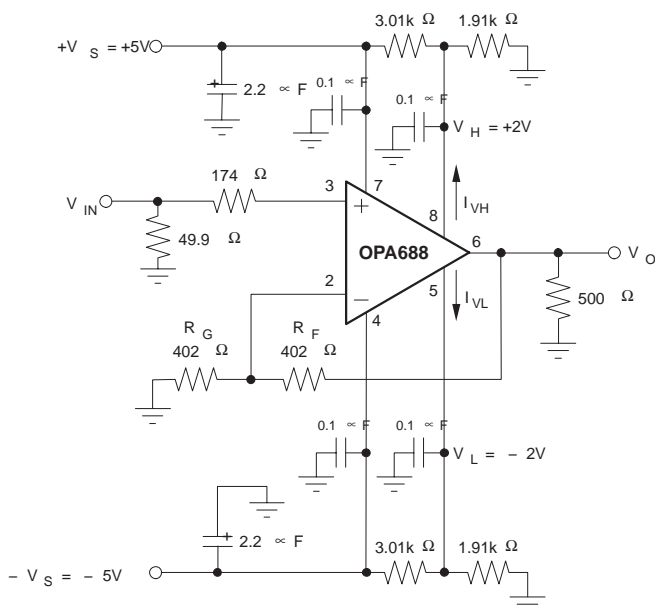
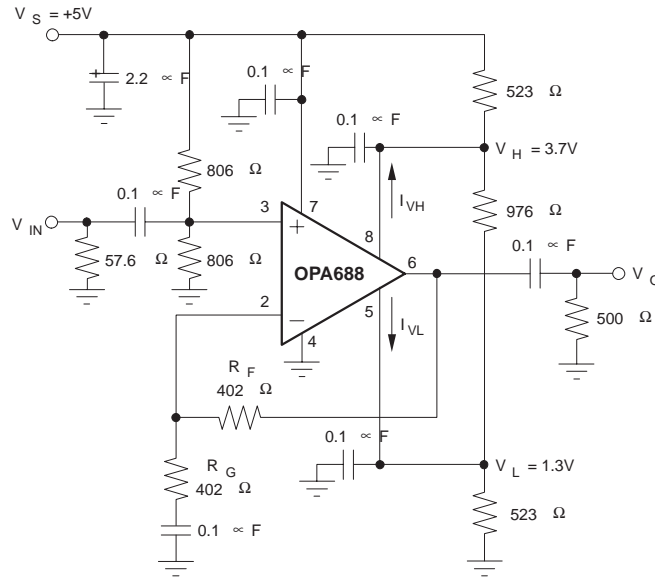
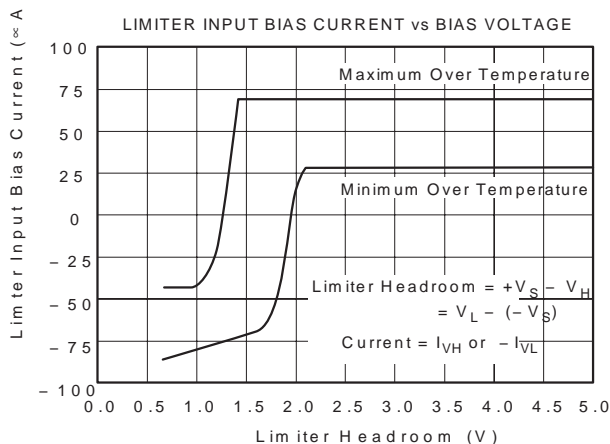

Figure 30. DC-Coupled, Dual Supply Amplifier
Figure 31. AC-Coupled, Single Supply Amplifier
Figure 37. Limiter Bias Current vs Bias Voltage
- I_{VH} (V_H bias current) is positive, and I_{VL} (V_L bias current) is negative, under these conditions. See Note 3, Figure 31 and Figure 37.
Figure 30 shows a non-inverting gain amplifier for dual-supply operation. This circuit was used for AC characterization of the OPA688, with a 50-Ω source, which it matches, and a 500-Ω load. The power-supply bypass capacitors are shown explicitly in Figures 30 and 31, but will be assumed in the other figures. The limiter voltages (V_H and V_L) and their bias currents (I_{VH} and I_{VL}) have the polarities shown.
Figure 31 shows an AC-coupled, non-inverting gain amplifier for single +5V supply operation. This circuit was used for AC characterization of the OPA688, with a 50W source, which it matches, and a 500-Ω load. The power-supply bypass capacitors are shown explicitly in Figures 30 and 31, but will be assumed in the other figures. The limiter voltages (V_H and V_L) and their bias currents (I_{VH} and I_{VL}) have the polarities shown. Notice that the single-supply circuit can use three resistors to set V_H and V_L , where the dual-supply circuit usually uses four to reference the limit voltages to ground.
The OPA688 is nominally specified for operation using either ± 5 -V supplies or a single +5-V supply. The maximum specified total supply voltage of 12 V allows reasonable tolerances on the supplies. Higher supply voltages can break down internal junctions, possibly leading to catastrophic failure. Single-supply operation is possible as long as common mode voltage constraints are observed. The common mode input and output voltage specifications can be interpreted as a required headroom to the supply voltage. Observing this input and output headroom requirement will allow design of non-standard or single-supply operation circuits. Figure 31 shows one approach to single-supply operation.
When pins 5 and 8 are left open, V_H and V_L go to the Default Voltage Limit; the minimum values are in the Specifications. Looking at Figure 37 for the zero bias current case will show the expected range of $(V_S - \text{default limit voltages}) = \text{headroom}$.
When the limiter voltages are more than 2.1V from the supplies ($V_L > -V_S + 2.1 \text{ V}$ or $V_H < +V_S - 2.1 \text{ V}$), you can use simple resistor dividers to set V_H and V_L (see Figure 30). Make sure you include the Limiter Input Bias Currents (Figure 37) in the calculations (i.e., $I_{V_L} \geq -50 \mu\text{A}$ out of pin 5, and $I_{V_H} \leq +50 \mu\text{A}$ out of pin 8). For good limiter voltage accuracy, run at least 1-mA quiescent bias current through these resistors.
When the limiter voltages need to be within 2.1V of the supplies ($V_L \leq -V_S + 2.1 \text{ V}$ or $V_H \geq +V_S - 2.1 \text{ V}$), consider using low impedance buffers to set V_H and V_L to minimize errors due to bias current uncertainty. This will typically be the case for single supply operation ($V_S = +5\text{V}$). Figure 31 runs 2.5 mA through the resistive divider that sets V_H and V_L . This keeps errors due to I_{V_H} and $I_{V_L} < \pm 1\%$ of the target limit voltages.